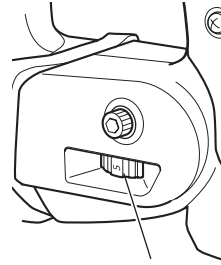

Fig. 8
6. Select the number of strikes (Fig. 8)